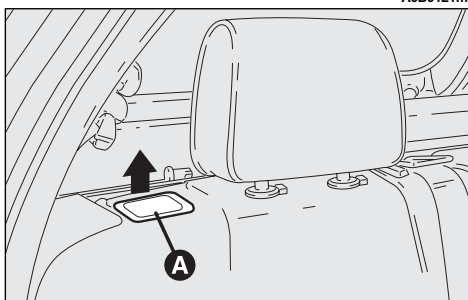
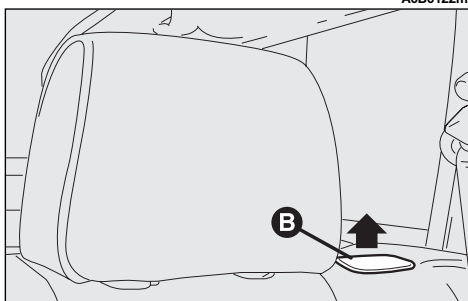

fig. 43
fig. 44
- Release the seat back catch raising the handle (**A-fig. 43**) for the right seat back and handle (**B-fig. 44**) for the left seat back.